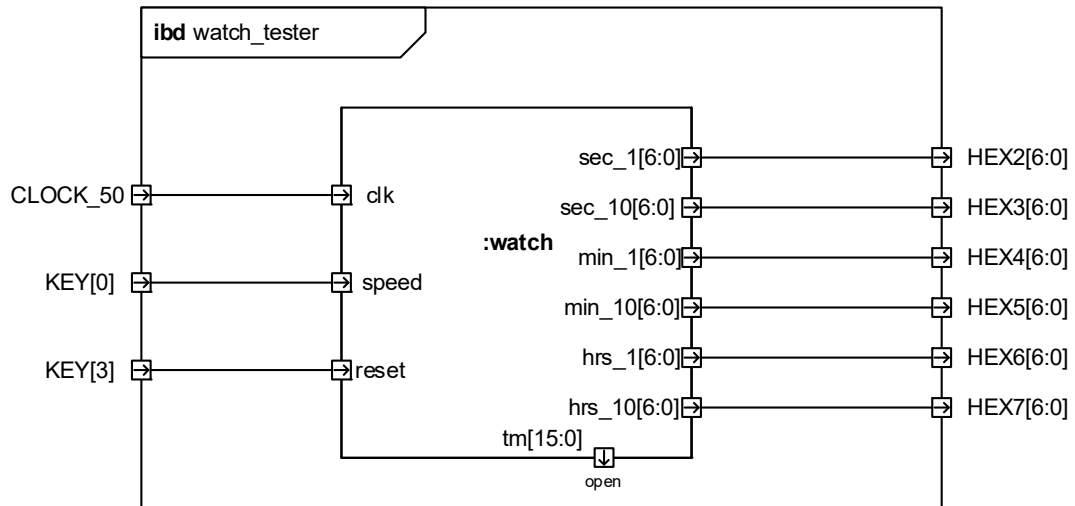
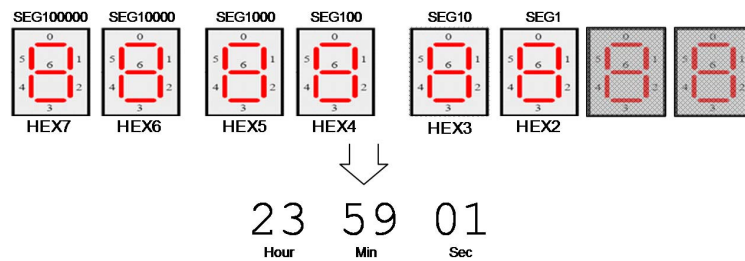

Fig. 4: Watch tester.
Fig. 5: Watch output.
- b) Create a tester and instantiate the watch in it and connect it as shown in figure 4. Leave the time, “tm”, ports on the watch open for now, by using the “open” keyword (`tm=>open`). Download and test the design on the DE2 board. The output should be a watch as shown in figure 5.